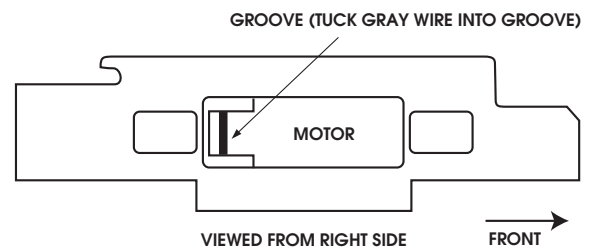

Fig. 5
- Your decoder and motor are now ready to be installed into the Track Master frame. With the right mainframe laid out in front of you (front to your left) install the motor with GRAY wire down. Fit GRAY wire in the groove cut in motor (Fig 5). Make sure light boards are installed with resistor side up. Be sure brush holders are not touching frame.